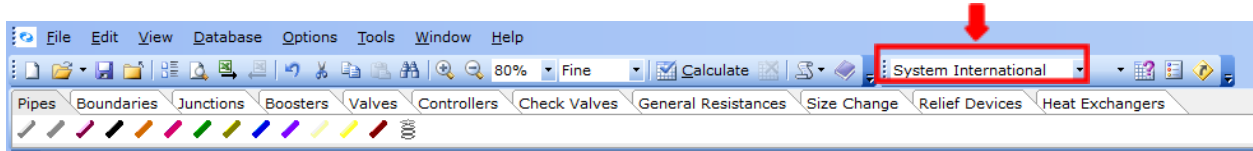

Figure 20: Unit Selector.
17. View the top portion of the user interface. The Units selector is on the middle portion (Figure 20):